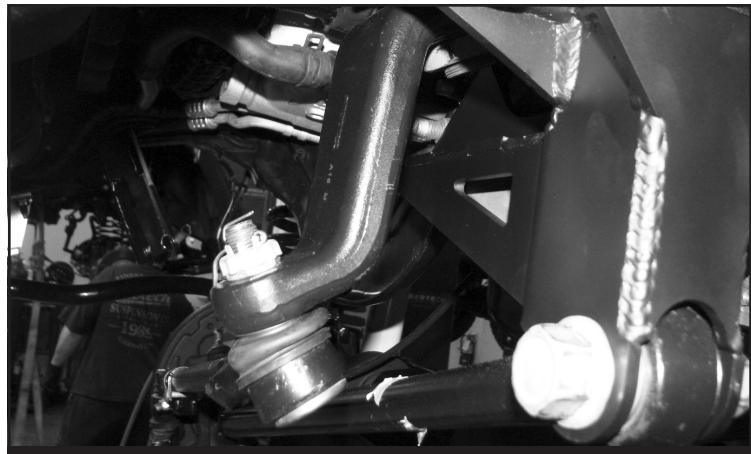

FIGURE 16 - STEP 22
22. Reinstall the track bar to the new frame bracket. Torque to 400 ft-lbs. Install the drag link to the new Fabtech pitman arm using the factory hardware and the new supplied cotter pin. Torque to 70 ft-lbs. **NOTE: The drag link will need to be rotated 180 degrees and installed from the bottom side of the pitman arm.** **SEE FIGURE 16**